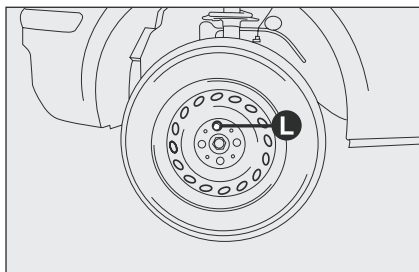

fig. 5
- ❑ for versions with wheel cap, remove the wheel cap after loosening the 3 fastening bolts and finally loosen the fourth bolt **L**-fig. 5 and extract the wheel;